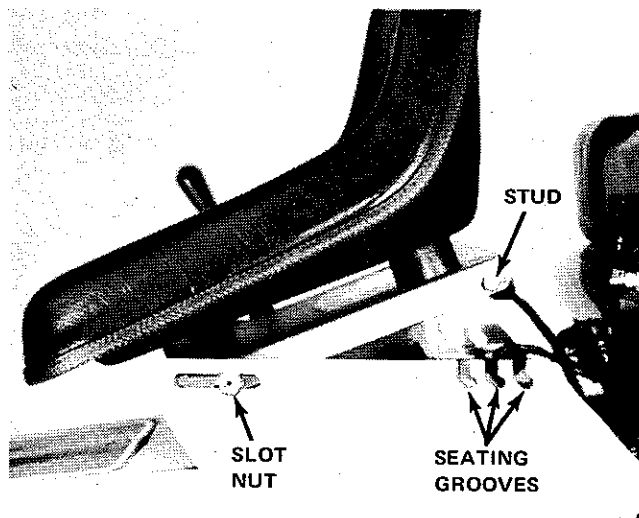

Figure 3-1. Seat Adjustment
A. The seat has three sitting positions (Figure 3-1). To adjust for a comfortable position, tilt the seat forward and slide studs in to desired groove. Slot nuts should be finger-tight.